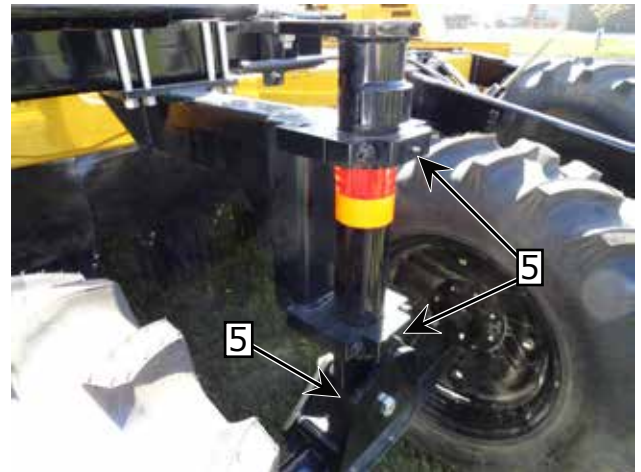

Figure 31. Rear Steering Pivots
5. Grease rear steering pivots (Figure 31).